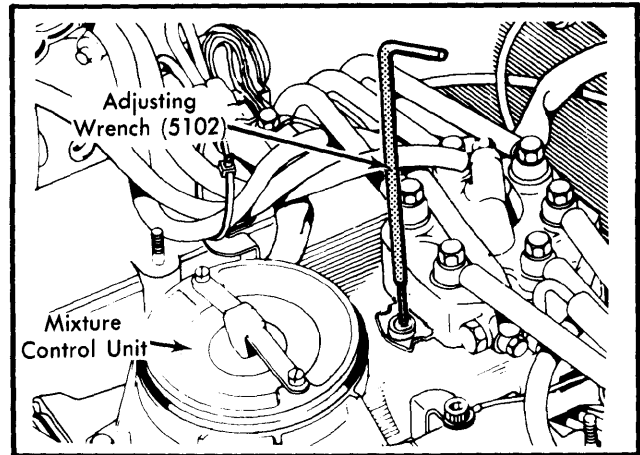

Fig. 4 Idle Mixture Adjustment
- 4) With CO meter and tachometer still installed, install air cleaner and connect hoses. To adjust CO level, insert adjusting wrench (5102) into adjustment hole and adjust CO to specifications. See Fig. 4.